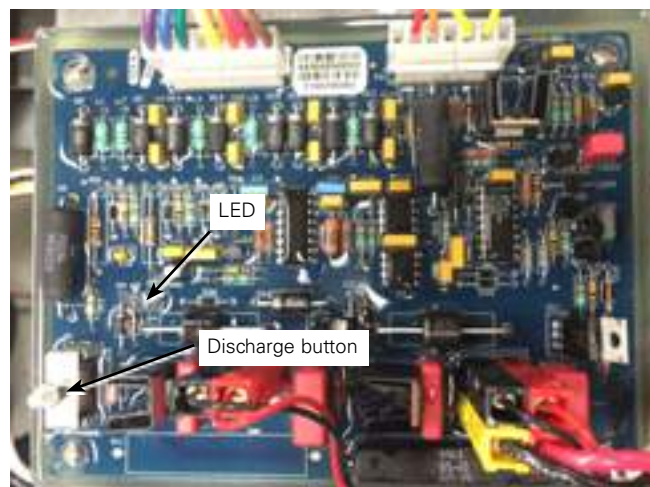

Figure 32. Location of white discharge button and LED discharge indicator on actuator circuit board
4. Locate the white Discharge button on the actuator circuit board. See Figure 32.